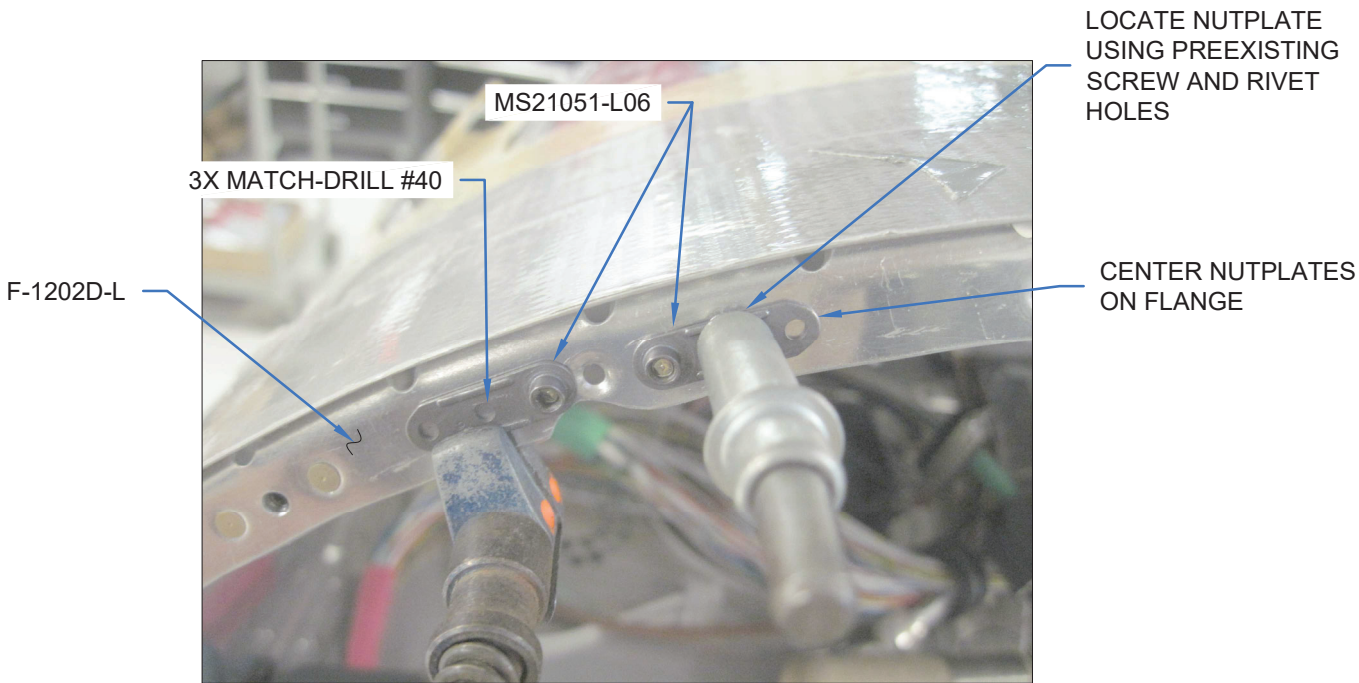

FIGURE 2: NOTCH FOR DISPLAY & NEW NUTPLATES
Step 7: Match-Drill #40 the nutplate attach holes into the F-1202D-L using the nutplates as shown in Figure 2.